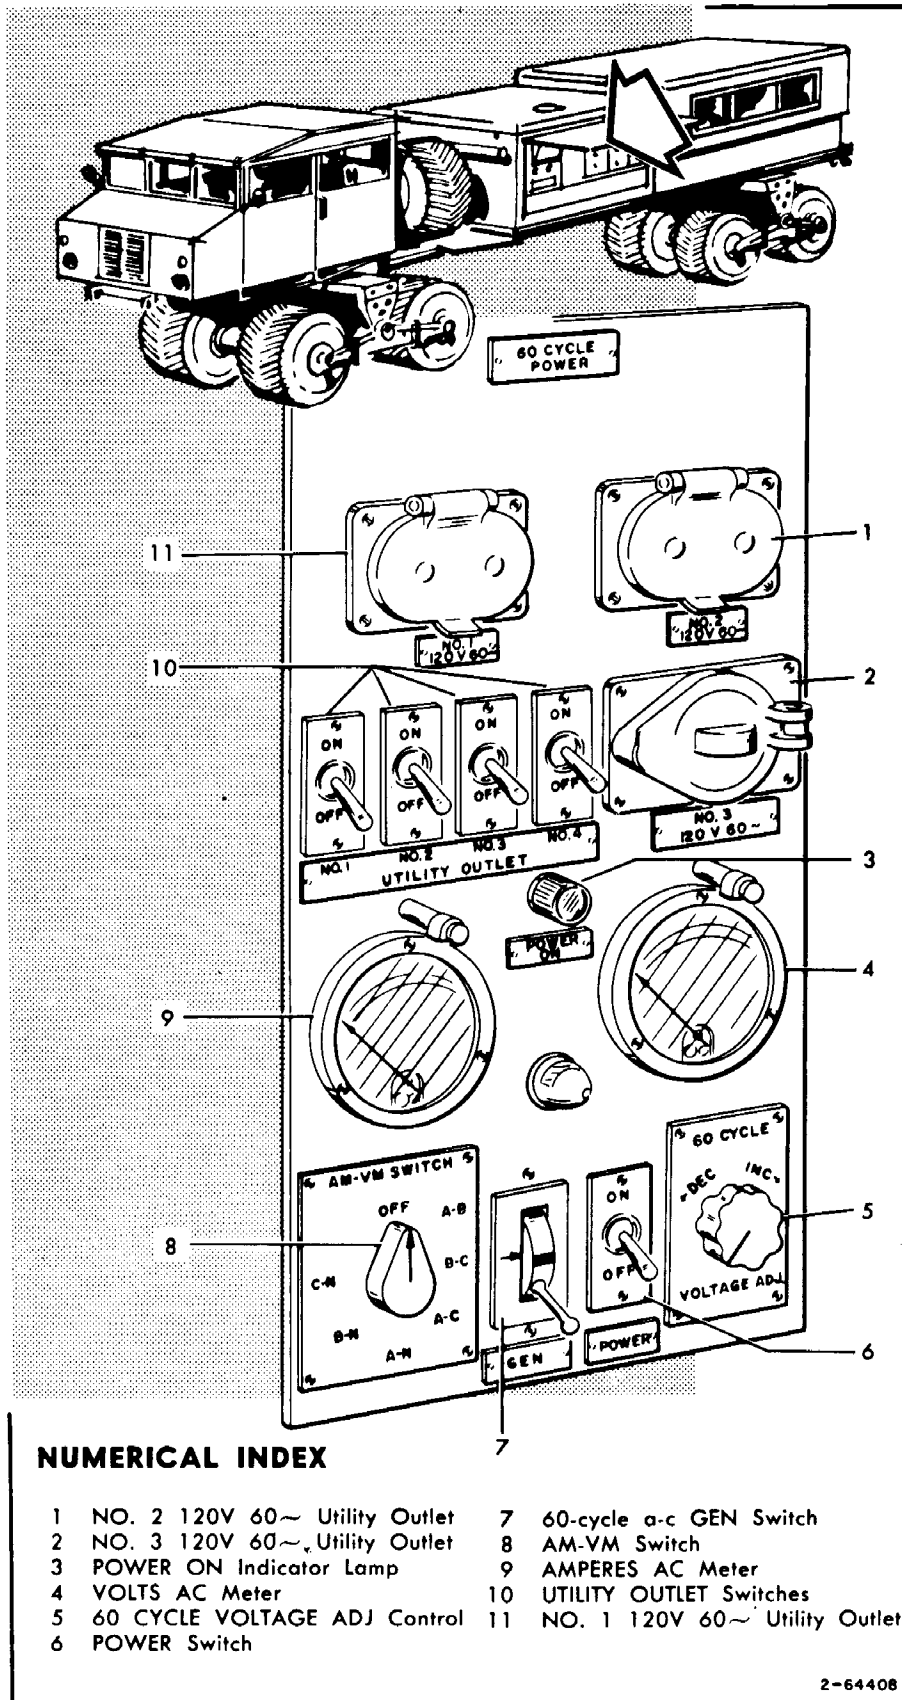

Figure 3-39. 60 Cycle Power Panel
- f. Place 60 CYCLE GEN switch (7, figure 3-39) ON.
- g. Rotate 60 CYCLE VOLTAGE ADJ control (5) toward INC until VOLTS AC meter (4) indicates 208 volts.
e. Rotate 400 CYCLE VOLTAGE ADJ control (5) to DEC.
f. Place POWER switch (6, figure 3-39) and GEN switch (7) on 60 Cycle Power panel OFF.
- g. Rotate 60 CYCLE VOLTAGE ADJ control (5) to DEC.